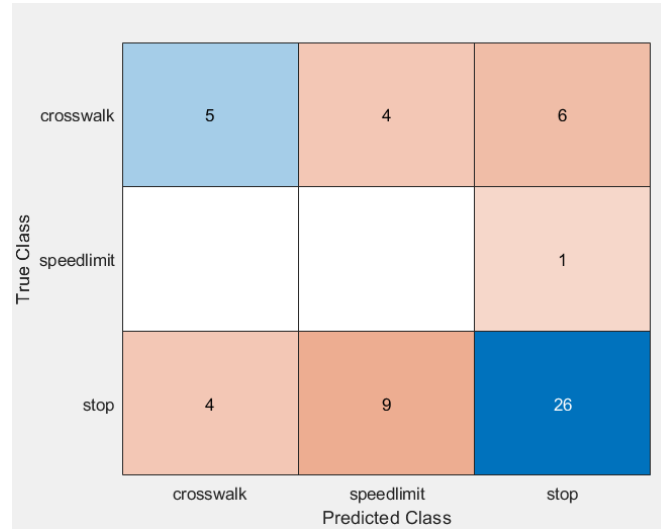

Figure 18: Confusion chart for KNN model predicting the classes of three types of traffic signs: stop, speed limit and crosswalk.
4. Once the model has finished evaluating the test data, create and display a confusion matrix by calling the function “confusionmat”. Calculate the model’s accuracy by dividing the number of correct predictions by the total number of test images evaluated by the model. An example confusion chart is shown in Figure 18.